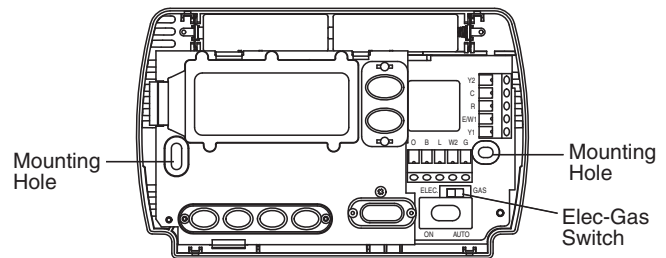

Figure 1 – Thermostat base
5. Fasten base loosely to wall, as shown in fig. 1, using two mounting screws. Place a level against bottom of base, adjust until level, and then tighten screws. (Leveling is for appearance only and will not affect thermostat operation.) If you are using existing mounting holes, or if holes drilled are too large and do not allow you to tighten base snugly, use plastic screw anchors to secure subbase.
This thermostat is configured from the factory to operate a heat/cool, fossil fuel (gas, oil, etc.), forced air system. It is configured correctly for any system that DOES NOT require the thermostat to energize the fan on a call for heat. If your system is an electric heat or heat-pump system that REQUIRES the thermostat to turn on the fan on a call for heat, locate the ELEC/GAS switch on the back of the thermostat (see fig. 1) and switch it to the **ELEC** position. This will allow the thermostat to energize the fan immediately on a call for heat. If you are unsure if the heating/cooling system requires the thermostat to control the fan, contact a qualified heating and air conditioning service person.
If "**BATT**" is displayed, the batteries are low and should be replaced. For best results, replace all batteries with new premium brand alkaline batteries such as Duracell® or Energizer®. To replace batteries, press system button to **OFF**, install the batteries along the top of the base (see Fig. 1). The batteries must be installed with the positive (+) end to the left.